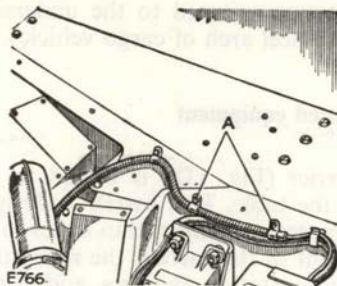

Fig. 116 Cable clips for aerial co-axial leads
- (2) Release the last two cable clips (Fig. 116), each secured by a screw and captive nut. Replace the screws to seal the holes.
- (3) Unscrew the two screws (Fig. 116) located in the holes leading to the ATU. Captive nuts are fitted to the underside of these holes.